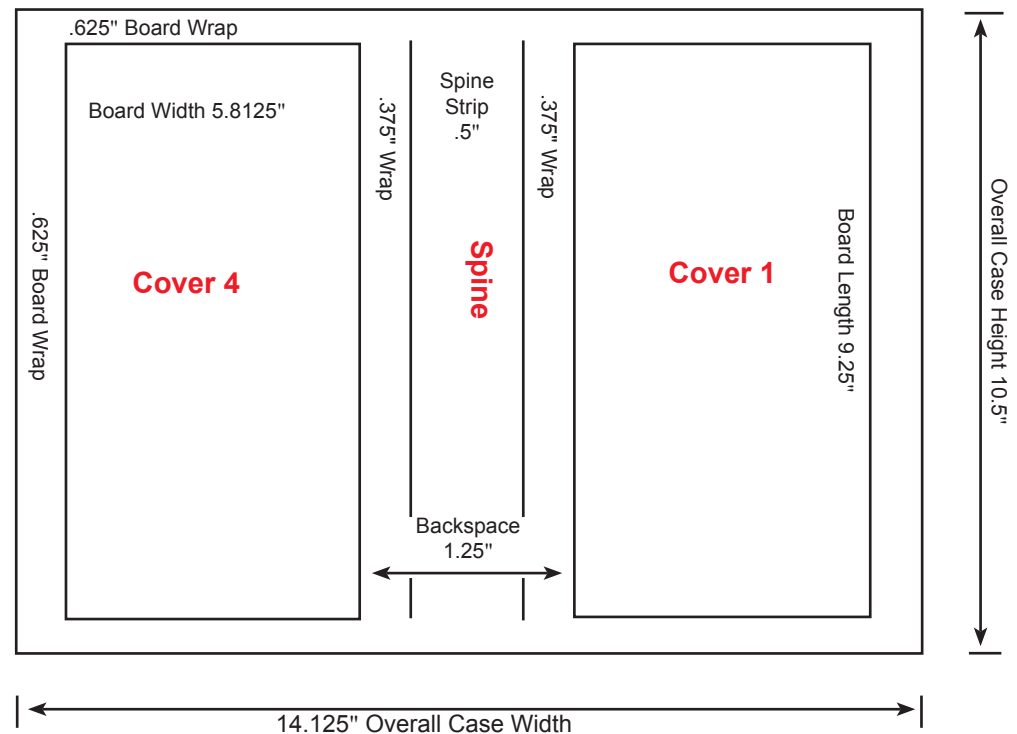

Figure 7
- ❑ File spreads must be setup in Landscape. (See Figure 7)
- ❑ Type, logos and rule lines may butt the edge of the spine strip width, rules lines extended past the spine strip width will not stamp in the hinge of the case. Cover 1 and 4 rule lines must stop 1/16" from the board edge on the spine side. Spine, Cover 1 and 4 the type, logos and rules should be at least 1/8" from Top and Bottom of spine strip or edge of the boards. (See Figure 7)